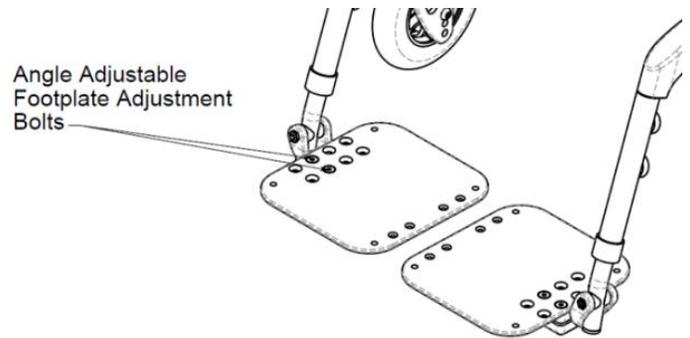

Figure 15.21: Angle Adjustable Footplates
1. Loosen the angle adjustable footplate adjustment bolts as shown in Figure 15.21.
1. Remove the angle adjustable footplate adjustment bolts as shown in Figure 15.21.
1. Loosen the angle adjustable footplate adjustment bolts (See Figure 15.21).
1. Remove the angle adjustable footplate adjustment bolts shown (See Figure 15.21).